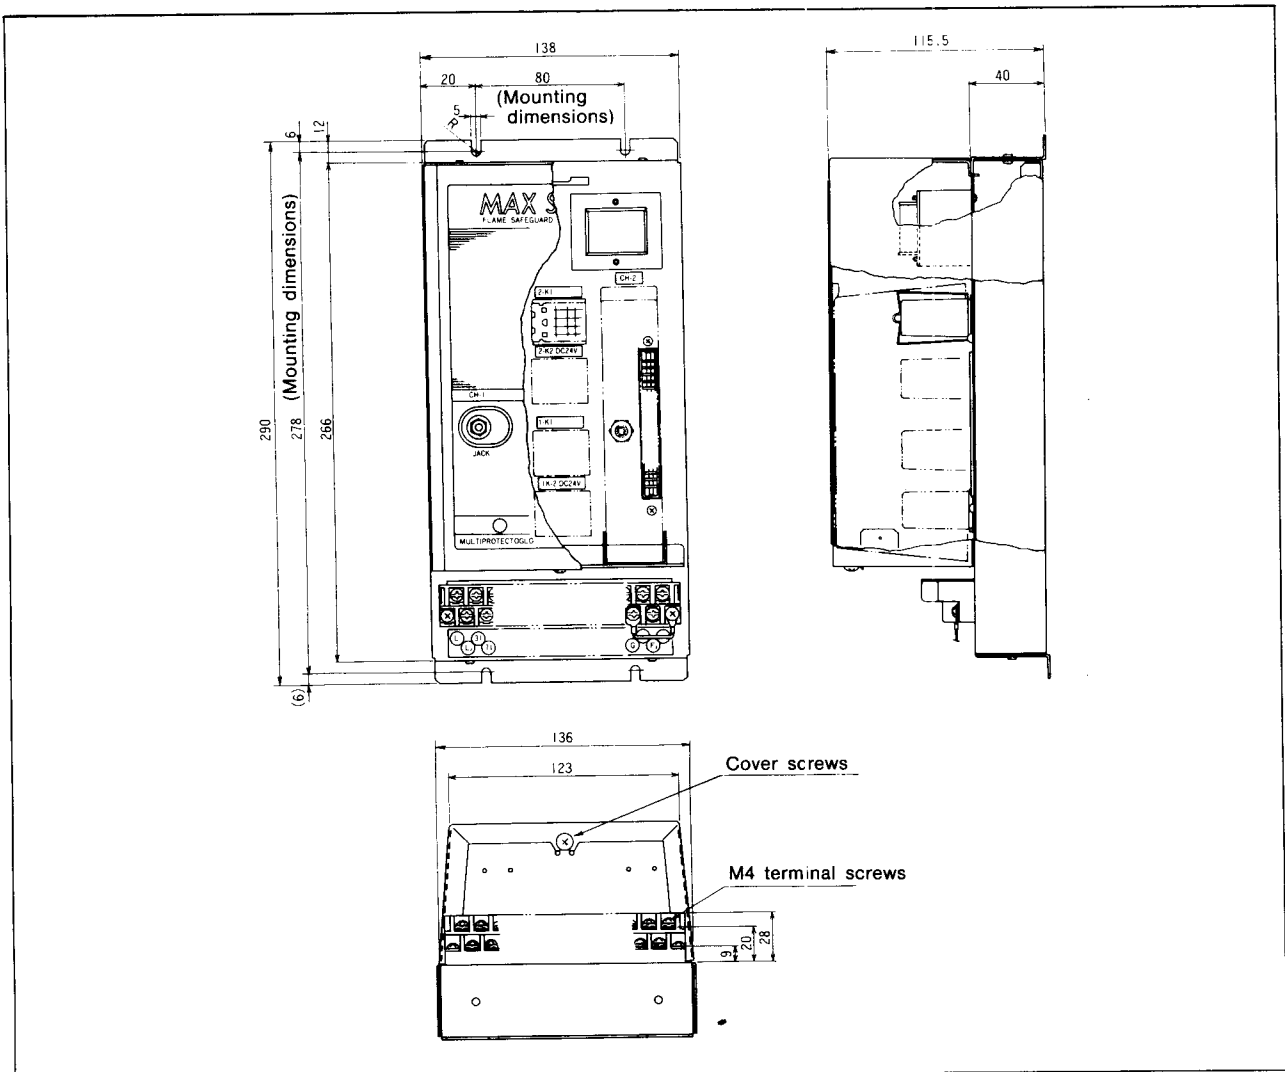

Fig. 1 R4332A (2cH)
Mount the instrument so that the terminal board faces downward as shown in Fig. 1.
- (1) Mount the instrument by tightening the four mounting screws as shown in Fig. 1 and 2.
- (3) Insert the PC board into the connector securely with the amplifier nameplate facing outward as shown in Fig. 1 and 2.
- (4) Remount the instrument cover.